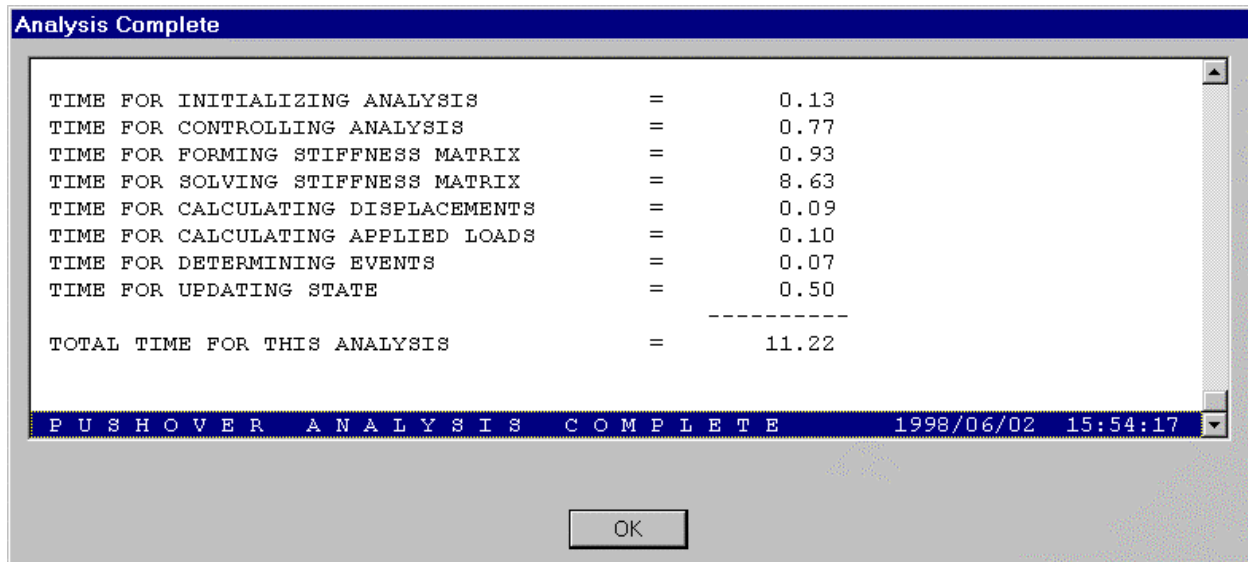

Figure D-4: Screen Message When Pushover Analysis Is Complete
2. A window is opened in which various phases of analysis are progressively reported. When the analysis is complete the screen will display as shown in Figure D-4.